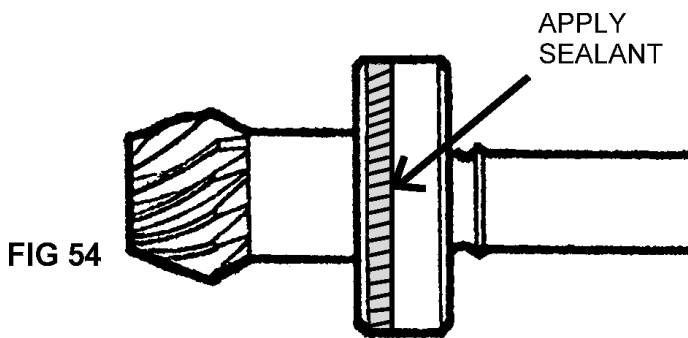

FIG 54
3. Fit new pinion on thread, making sure it is tight up to bearing (Fig. 54).
1. Clean and dry bearing. Place oil resistant gasket sealant (e.g. Fullerprene 303) around bearing as in Fig. 54.